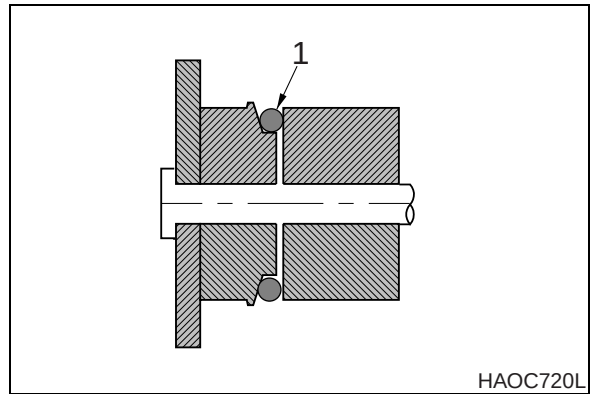

Figure 5
5. Roll the new O-ring (1, Figure 5) into the O-ring groove.